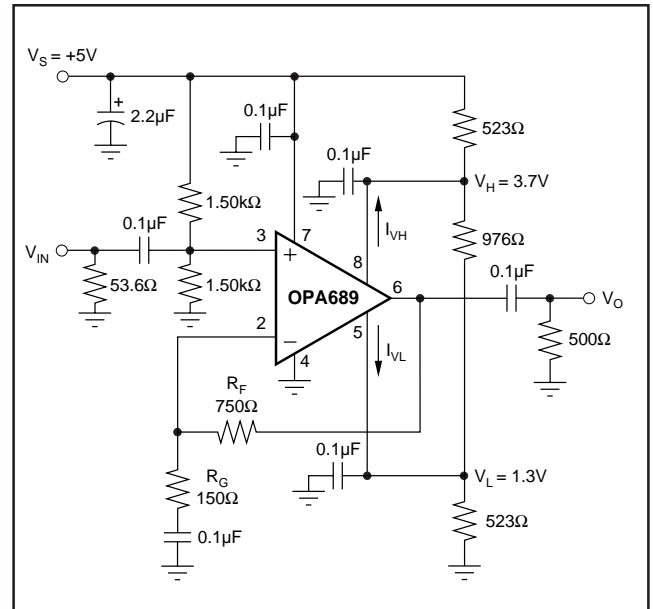

FIGURE 2. AC-Coupled, Single Supply Amplifier.
$G = +6$ ,  $R_F = 750\Omega$ ,  $R_L = 500\Omega$  tied to  $V_{CM} = 2.5V$ ,  $V_L = V_{CM} - 1.2V$ ,  $V_H = V_{CM} + 1.2V$ , (Figure 2 for AC performance only), unless otherwise noted.
NOTES: (1) Junction Temperature = Ambient Temperature for low temperature limit and 25°C guaranteed specifications. Junction Temperature = Ambient Temperature + 23°C at high temperature limit guaranteed specifications. (2) TEST LEVELS: (A) 100% tested at 25°C. Over temperature limits by characterization and simulation. (B) Limits set by characterization and simulation. (C) Typical value for information only. (3) Current is considered positive out of node. (4) CMIR tested as < 3dB degradation from minimum CMRR at specified limits. (5)  $I_{VH}$  ( $V_H$  bias current) is negative, and  $I_{VL}$  ( $V_L$  bias current) is positive, under these conditions. See Note 3 and Figures 2 and 7. (6) Limiter feedthrough is the ratio of the output magnitude to the sinewave added to  $V_H$  (or  $V_L$ ) when  $V_{IN} = 0$ . (7)  $V_H$  slew rate conditions are:  $V_{IN} = V_{CM} + 0.4V$ ,  $G = +6$ ,  $V_L = V_{CM} - 1.2V$ ,  $V_H = \text{step between } V_{CM} + 1.2V \text{ and } V_{CM}$ .  $V_L$  slew rate conditions are similar. (8) Linearity Guardband is defined for an output sinusoid ( $f = 5\text{MHz}$ ,  $V_O = V_{CM} \pm 1V_{p-p}$ ) centered between the limiter levels ( $V_H$  and  $V_L$ ). It is the difference between the limiter level and the peak output voltage where SFDR decreases by 3dB (see Figure 8).
$G = +6$ ,  $R_F = 402\Omega$ ,  $R_L = 500\Omega$  tied to  $V_{CM} = 2.5V$ ,  $V_L = V_{CM} - 1.2V$ ,  $V_H = V_{CM} + 1.2V$ , (Figure 2 for AC performance only), unless otherwise noted.
Figure 2 shows an AC coupled, non-inverting gain amplifier for single supply operation. This circuit was used for AC
The OPA689 is nominally specified for operation using either  $\pm 5\text{V}$  supplies or a single  $+5\text{V}$  supply. The maximum specified total supply voltage of  $13\text{V}$  allows reasonable tolerances on the supplies. Higher supply voltages can break down internal junctions, possibly leading to catastrophic failure. Single supply operation is possible as long as common mode voltage constraints are observed. The common mode input and output voltage specifications can be interpreted as a required headroom to the supply voltage. Observing this input and output headroom requirement will allow design of non-standard or single supply operation circuits. Figure 2 shows one approach to single-supply operation.
When the limiter voltages need to be within 2.1V of the supplies ( $V_L \leq -V_S + 2.1V$  or  $V_H \geq +V_S - 2.1V$ ), use low impedance voltage sources to set  $V_H$  and  $V_L$  to minimize errors due to bias current uncertainty. This will typically be the case for single supply operation ( $V_S = +5V$ ). Figure 2 runs 2.5mA through the resistive divider that sets  $V_H$  and  $V_L$ . This keeps errors due to  $I_{VH}$  and  $I_{VL} < \pm 1\%$  of the target limit voltages.